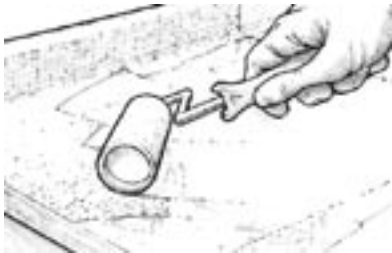

Figure 9-20 Apply the first coat of unthickened epoxy to fill the weave of the cloth before the wet-out coat becomes completely tack free.
9. Coat the surface to fill the weave before the wet-out becomes completely tack free (Figure 9-20). Follow the procedures for epoxy barrier coating under Section 9.4.6. It will take two or three coats to completely fill the weave of the cloth and to allow for a final sanding that will not damage the cloth.